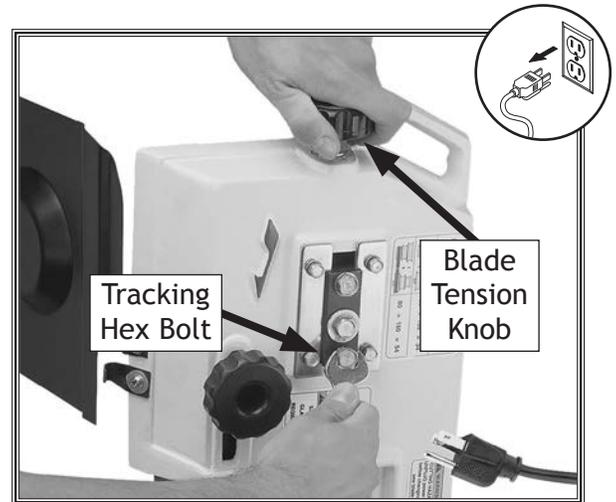

Figure 45. Adjusting the tracking hex bolt.
5. Use blade tension knob to release blade tension (see **Figure 45**).
6. Adjust tracking hex bolt, as shown in **Figure 45**, then tighten lower hex bolt loosened in **Step 4**.